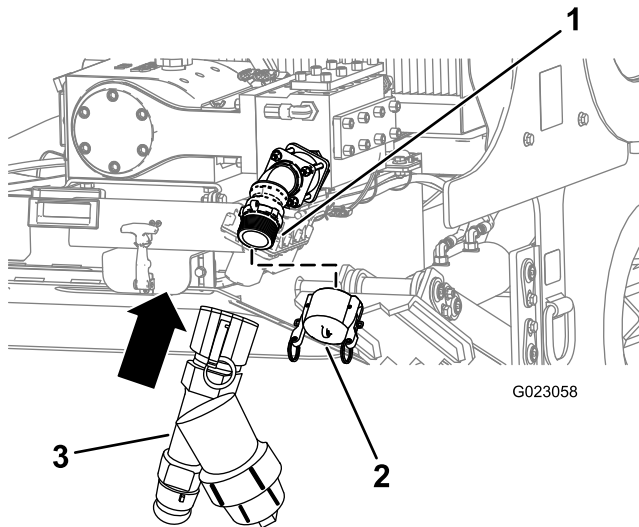

Figure 82
1. Remove the pump-inlet cap (Figure 82).
2. Align the Y-screen with the threads on the pump (Figure 82).